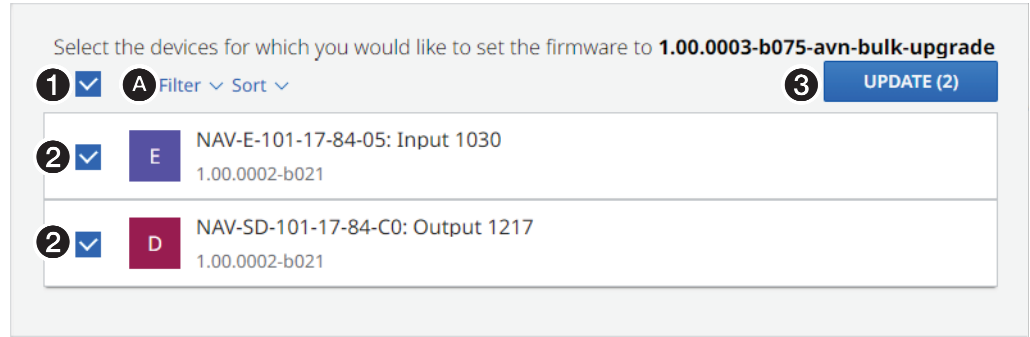

Figure 91. Firmware Endpoint Selection
The **NAVigator** page displays a page where you can select endpoints to upgrade (see figure 91 on page 85).
9. Click the **All** checkbox (see figure 91, ❶) or individual endpoint checkboxes (❷) to select one or more endpoints to upgrade.